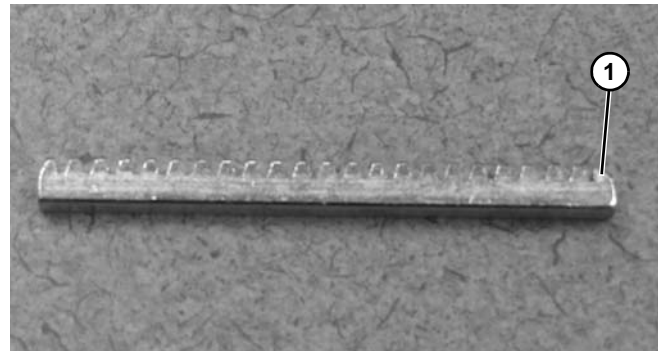

Figure 150
*Make sure the bent end (**Figure 150, item 1**) of the gear rack is NOT assembled into the conveyor frame.*